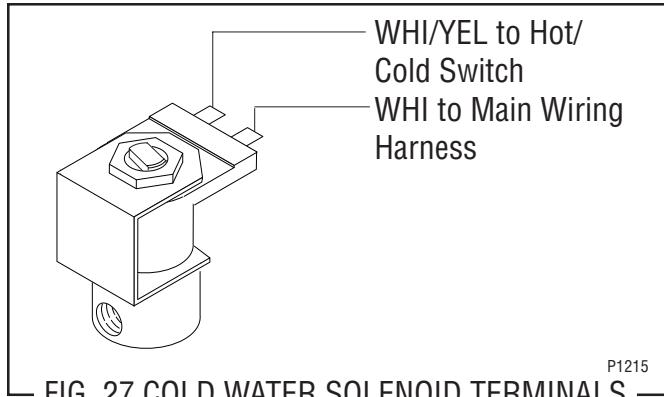

FIG. 27 COLD WATER SOLENOID TERMINALS
- Refer to Fig. 27 when reconnecting the wires.